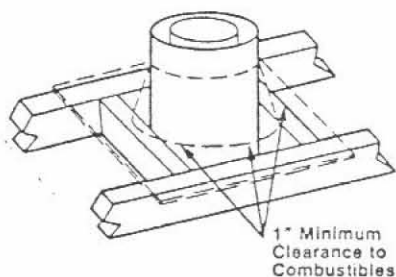

Figure 31
**Note:** Assemble one complete section of chimney at a time (inner section first, then outer section last) before proceeding with the next complete section. Continue to build flue pipe assembly up through framed ceiling openings and roof frame opening. Assemble just enough to penetrate the roof and flashing openings (Figure 31). Always maintain 1" minimum clearance to combustible materials and always check each pipe joint (inner and outer) to insure proper engagement. Check vertical alignment of flue pipe so that it projects the roof in a true vertical position. Use level if necessary to insure proper vertical position.